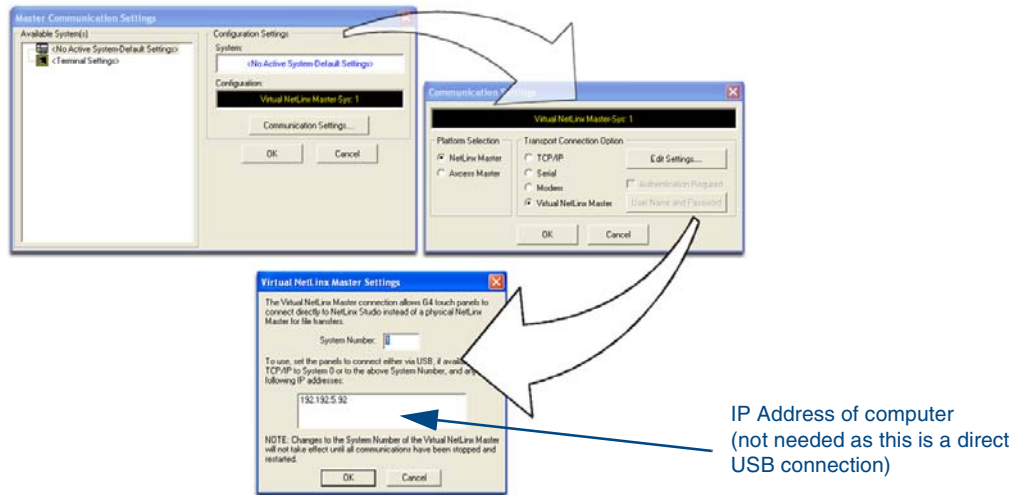

FIG. 48 Assigning Communication Settings for a Virtual Master
2. In NetLinx Studio, select **Settings > Master Communication Settings**, from the Main menu to open the Master Communication Settings dialog (FIG. 48).
6. Click the **Edit Settings** button to open the *Virtual NetLinx Master Settings* dialog (FIG. 48).